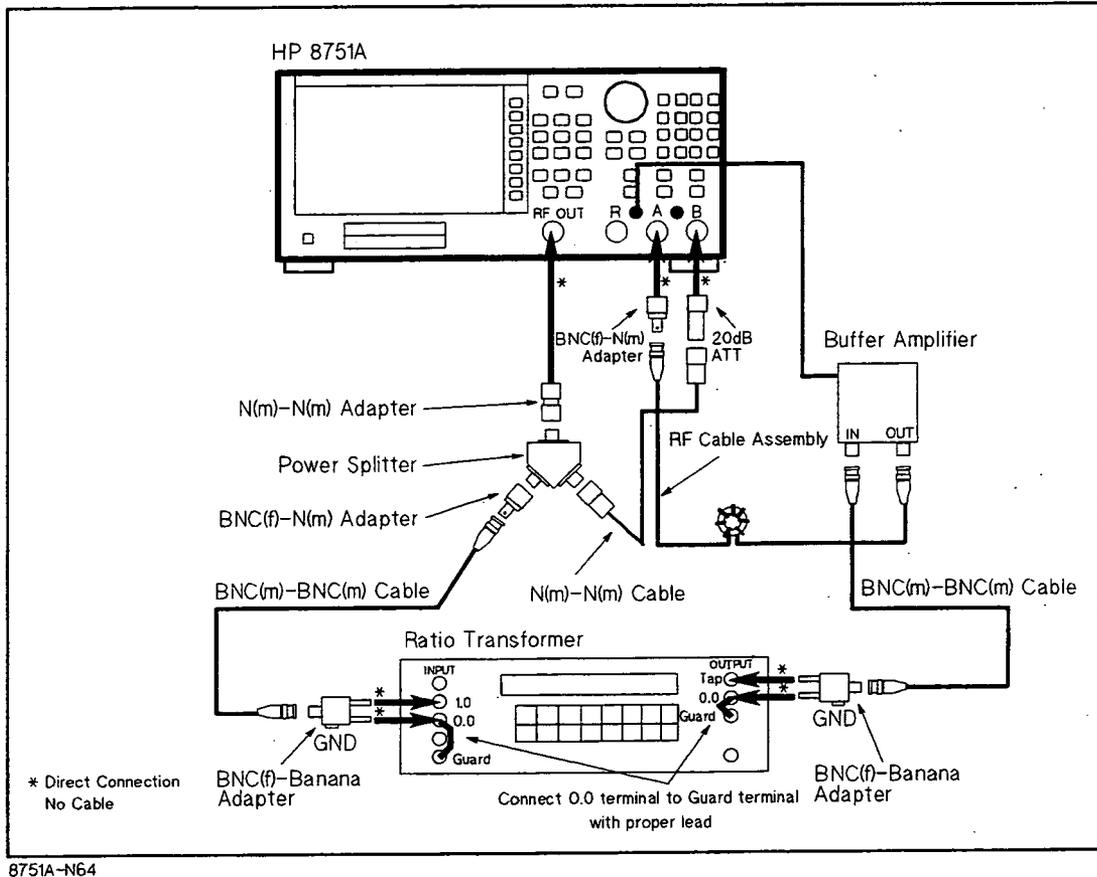

Figure 1-4. Magnitude Ratio/Phase Dynamic Accuracy Test Setup 1
a. Connect the test equipment as shown in Figure 1-4.